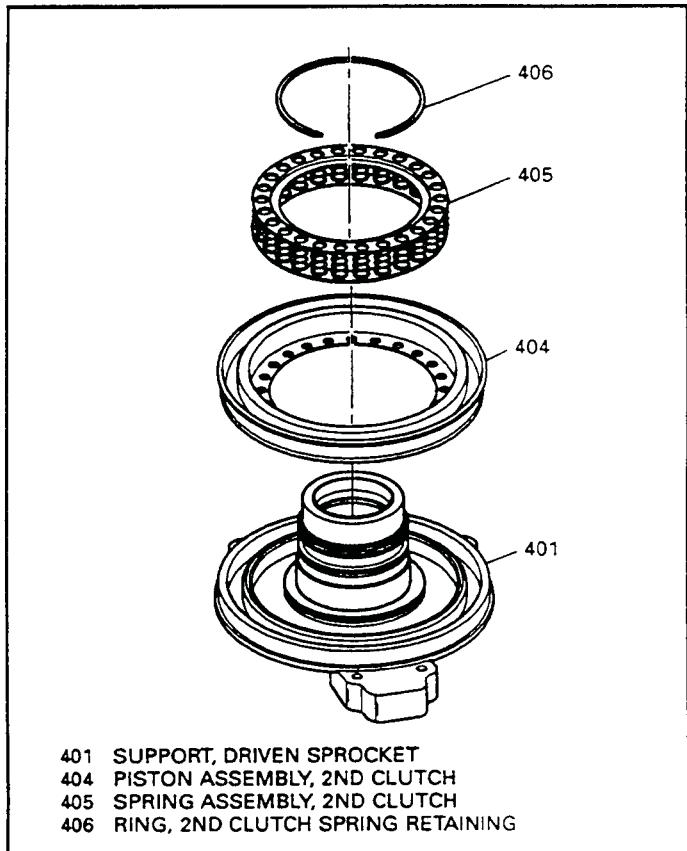

Figure 157
- Install the 2nd clutch piston (404) into driven sprocket support with a twisting motion, as shown in Figure 157.
- Install the 2nd clutch return spring assembly (405) with inside step facing up, as shown in Figure 157.